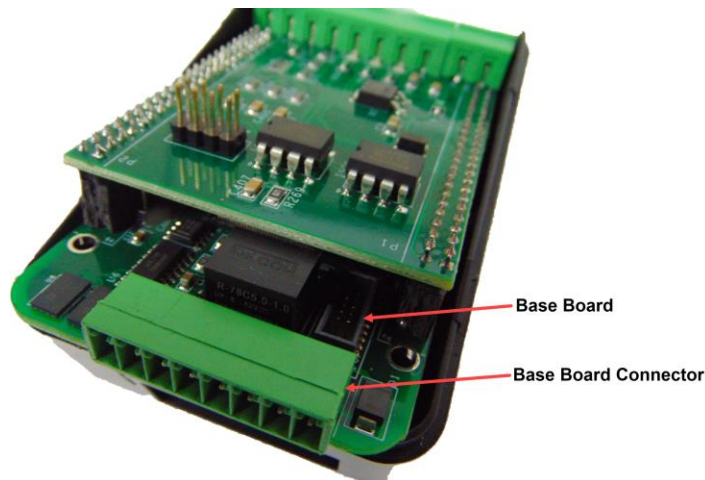

Figure 3: Base Board Connector
- Figure 3: Base Board Connector 2